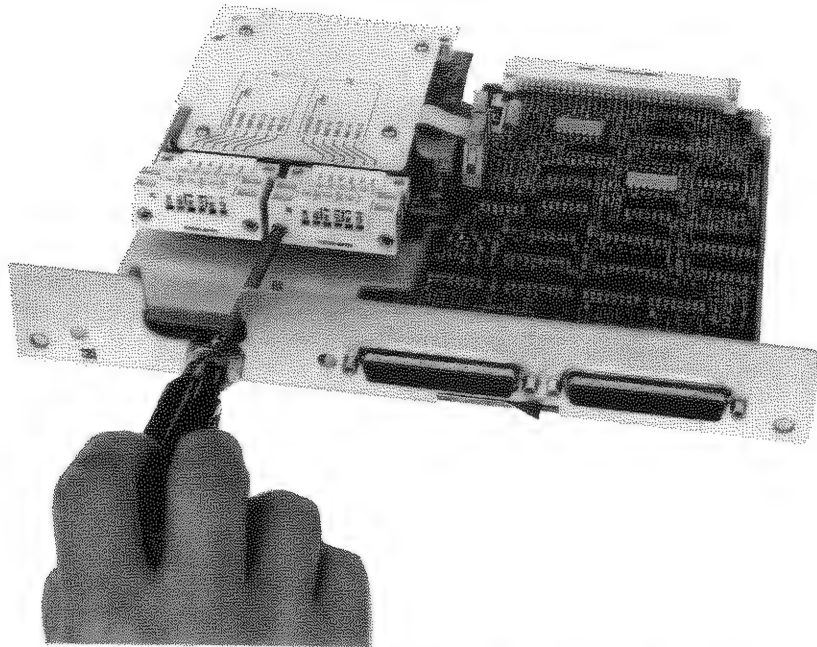

Figure 14. Removing Inner Screws of J1 and J2.
- c. Connectors J1 and J2 can be removed from the module to connect the analog extender cables. Loosen the inside captive screws of J1 and J2 with a no. 1 pozidriv screwdriver by inserting the screwdriver through the strain relief clamp. See Figure 14.